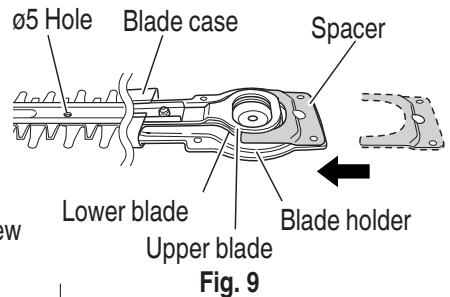

Fig. 9
- (2) When the parts are positioned correctly, attach the blade case to the new blade. (**Fig. 9**)
- (3) Insert the spacer, which was removed in above step 1, between the upper and lower blades. (**Fig. 9**)